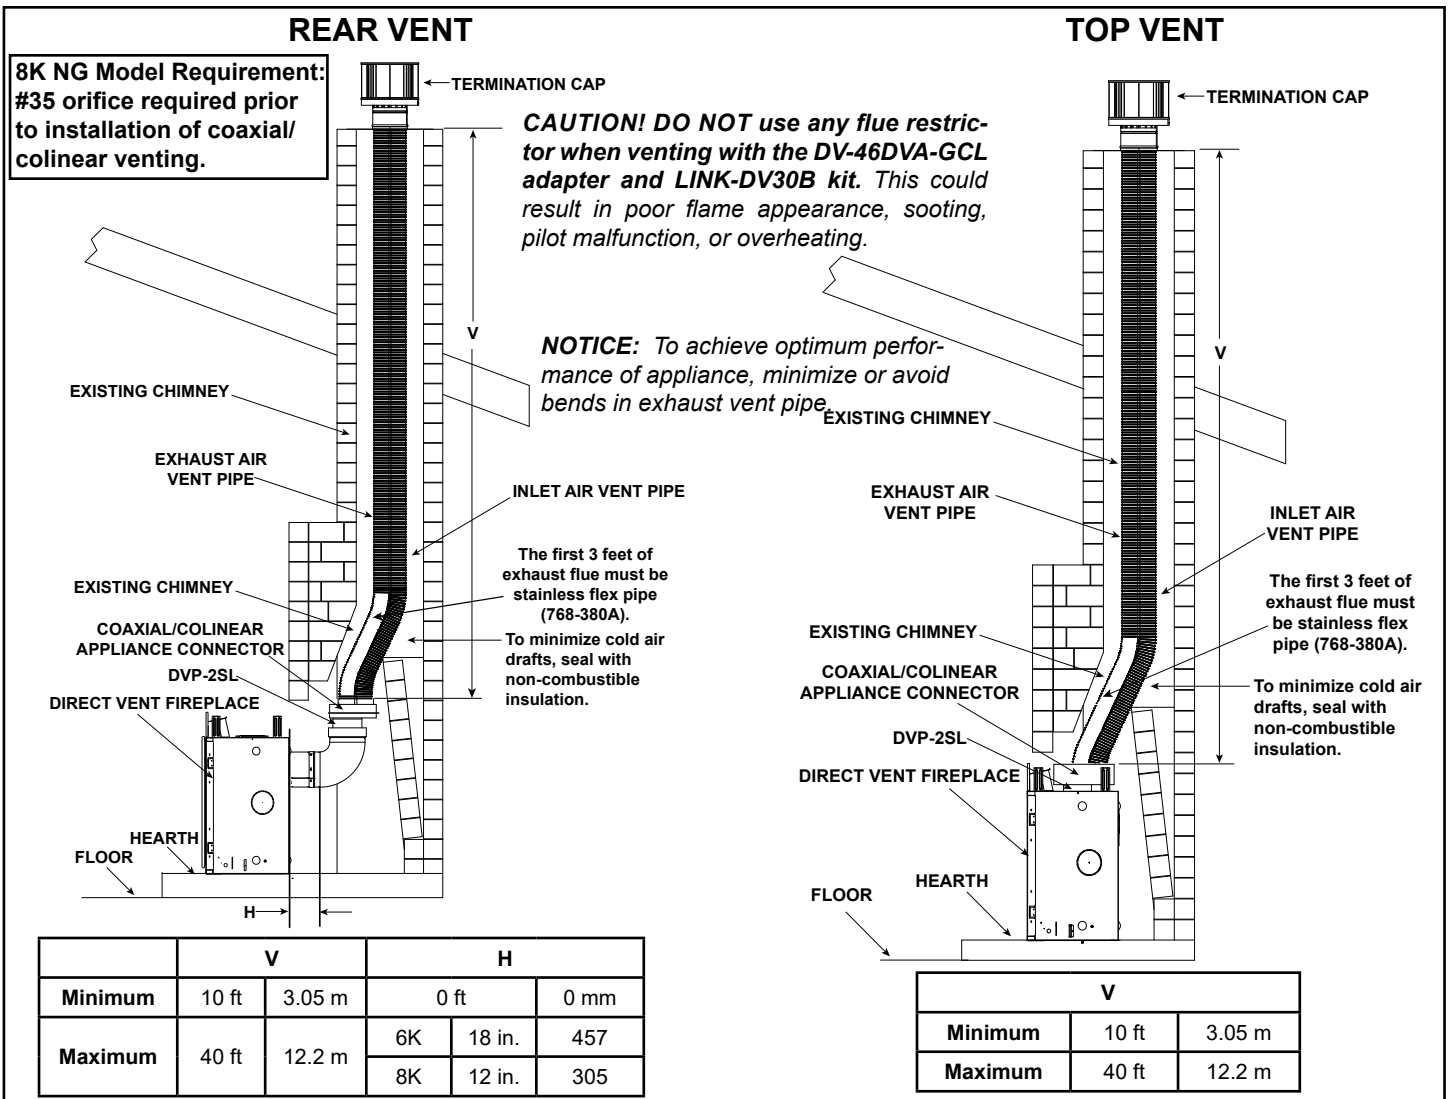

Figure 4.30
- Remove top seal cap and insulation if equipped. See Section 6, "Appliance Preparation." Attach the DVP-2SL to the 8 inch starting collar. Follow installation instructions included with DVP-2SL kit. Attach the DV-46DVA-GCL adapter to the appliance starting collar with 3-1/2 in. self-tapping screws. See Figure 4.30.
Connect the DVP-2SL adapter to the vertically positioned elbow. Follow installation instructions included with DVP-2SL kit. Secure DV-46DVA-GCL adapter to DVP-2SL with 3-1/2 in. self-tapping screws. See Figure 4.30.